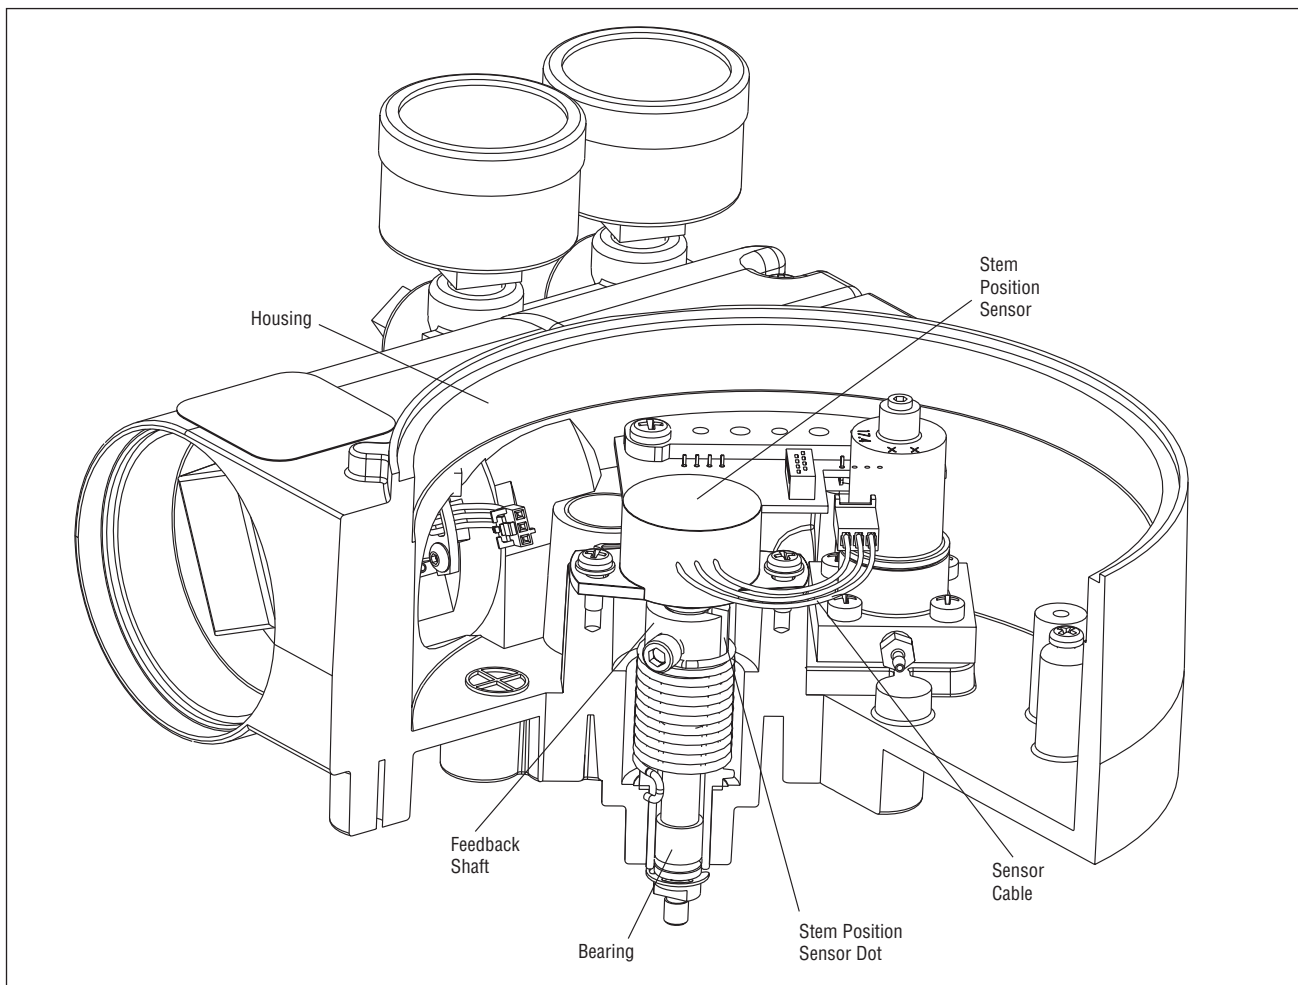

Figure 21: Stem Position Sensor Orientation
7. Turn the new position sensor shaft until the dot on the side of the shaft is aligned with the wires on the side of the position sensor (Figure 21).
Vented Design (See Figures 21 and 23)
Two chambers must be vented on the Logix 3200IQ positioners: the main housing chamber and the spool valve chamber (Figures 21 and 23). The main chamber vent is located on the backside of the positioner (see Figure 19). Vented-design Logix 3200IQ positioners are supplied from the factory with a fitting installed in the main chamber vent. Connect the necessary tubing/piping to this fitting to route the exhausted natural gas to a safe environment.